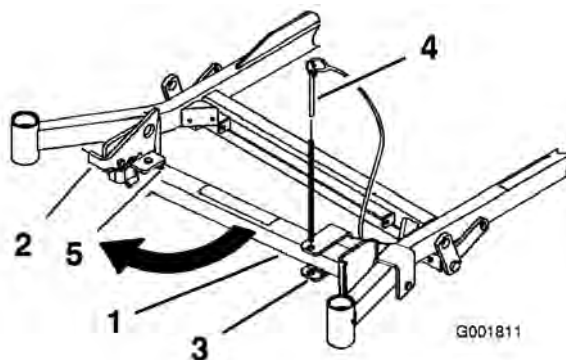
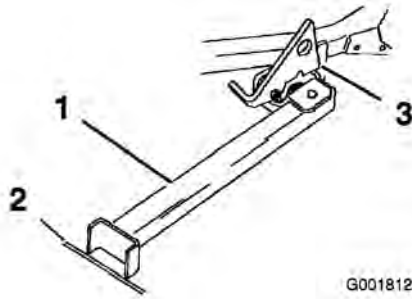

Figure 30
Figure 31
2. Remove the bracket pin (Figure 30).
3. Raise the latch. Swing the stand foot out front and slide stand toward machine, into the bottom of slot (Figure 30 and Figure 31).
4. Set the foot of stand on the ground and rest the latch on the pivot tab (Figure 31).
Note: For best results, place the foot of stand into seams in sidewalks or into the turf (Figure 31).
6. Drive onto the stand. Stop when the latch drops over the tab into the locked position (Figure 31). Once onto the stand, engage the parking brake and turn off the engine.
5. Return the stand to its rest position (Figure 30).